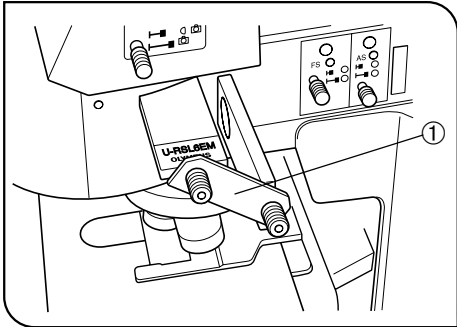

Fig. 6
The joint plate ① can be attached and locked between the slider knob and slider as shown in Fig. 6. The joint plates should be attached on both ends of the filter slider.